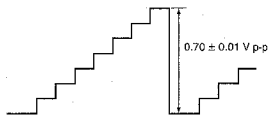

Fig. 3-7
3. Observe the TP306 (G OUT) with an oscilloscope, and adjust the SUB CONTRAST so that the signal level will be $0.70 \text{ V} \pm 0.01 \text{ V p-p}$. (Fig. 3-7)